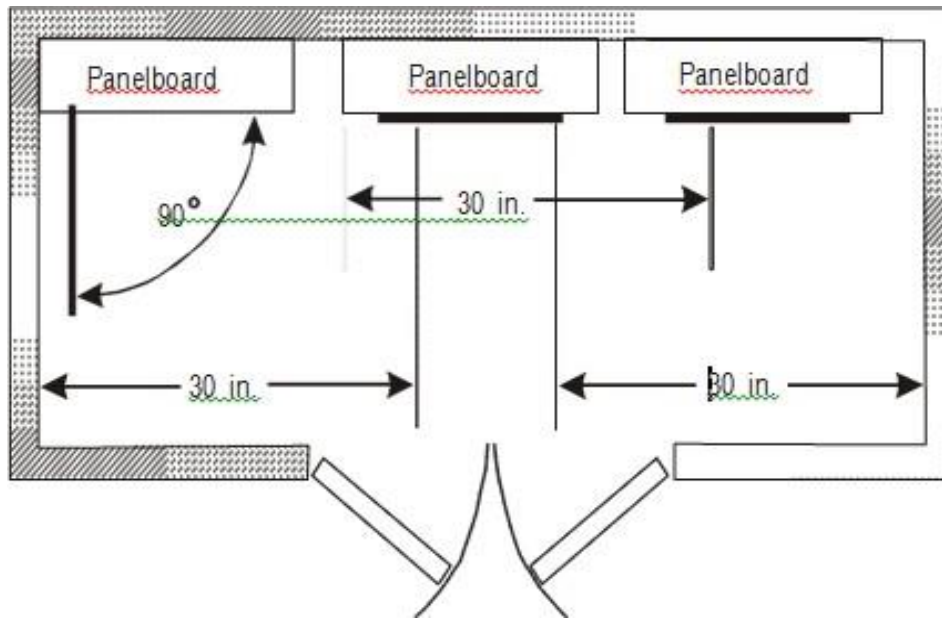

Figure 6.4 – Working space requirements for doors and hinged panels
- C.** Doors and hinged panels - Doors and hinged panels must have at least at least a 90-degree opening. Keep always working space clear. Do not store parts, tools, and equipment in the clear space (see figure 6.4).